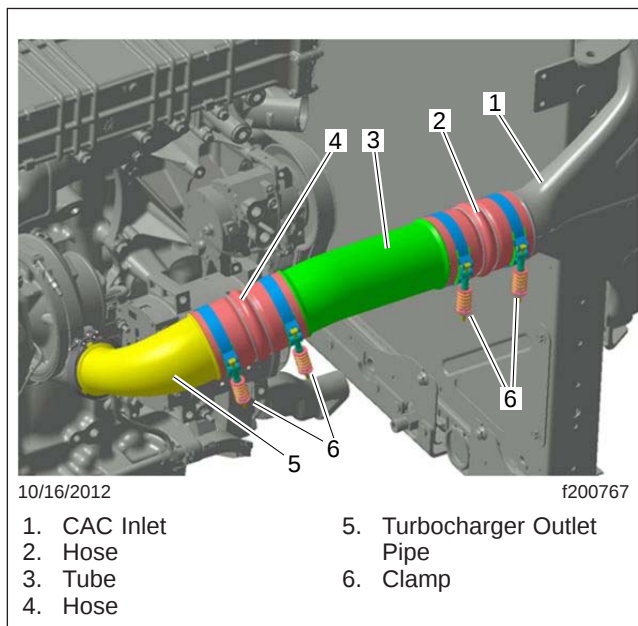
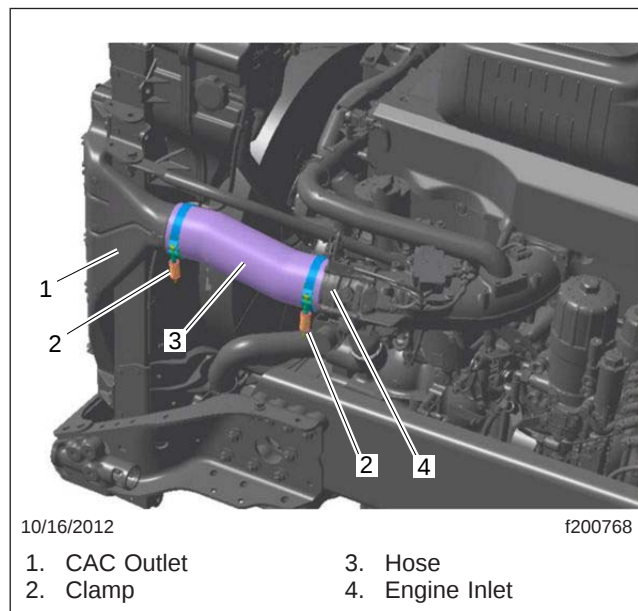

Fig. 5, CAC Plumbing, Turbocharger-to-CAC
Fig. 6, CAC Plumbing, CAC-to-Engine Inlet
5. Remove the charge air cooler (CAC) plumbing at the turbocharger outlet and the CAC inlet and at the CAC outlet and the engine inlet. See Fig. 5 and Fig. 6.